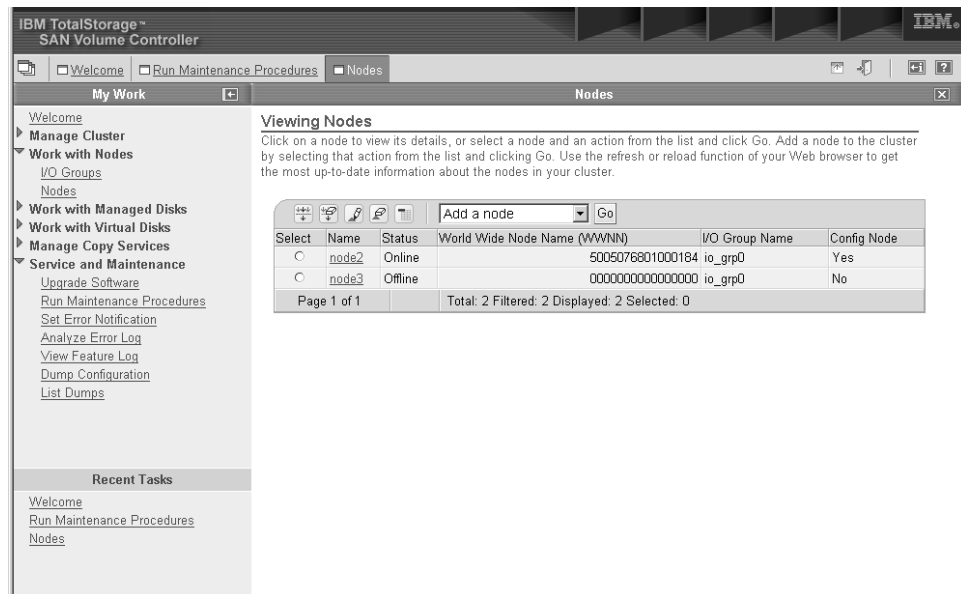

Figure 24. SAN Volume Controller console nodes panel
2. Select the Nodes option and the following panel is displayed. See Figure 24 on page 9.